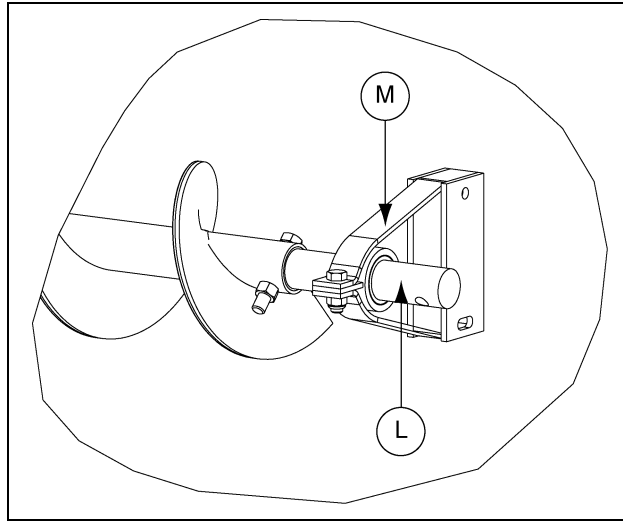

Figure 4AB
6. Place the hanger bearing bracket onto the connecting stub. (See Figure 4AB.)